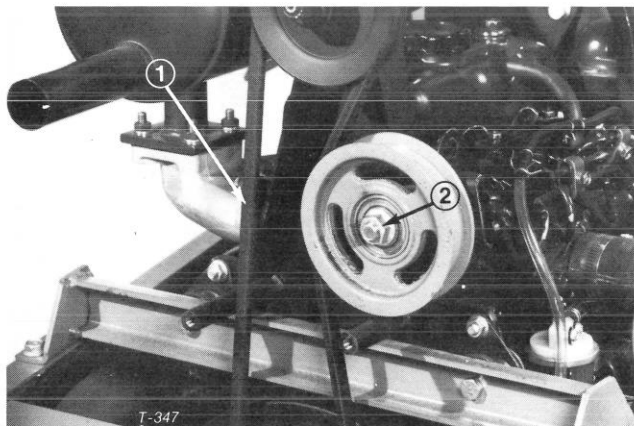

Figure 55
3. Belt should deflect 1/4 in. (6 mm) midway between the pulleys with 5 lbf (22 N) (Fig. 55). If deflection is incorrect, proceed to step 4. If correct, proceed to step 5.
4. Loosen locknut securing idler pulley (Fig. 55). Push idler pulley against belt until proper deflection is achieved and tighten idler pulley locknut (Fig. 55).
2. Loosen locknut securing idler pulley, slide pulley away from belt and remove belt from top and bottom pulleys (Fig. 55).
3. Install new belt and adjust for proper tension. Push idler pulley against belt until belt deflects 1/4 inch. (6 mm) with 5 lbf (22 N) midway between top and bottom pulleys (Fig. 55). Tighten idler pulley locknut to secure adjustment (Fig. 55).